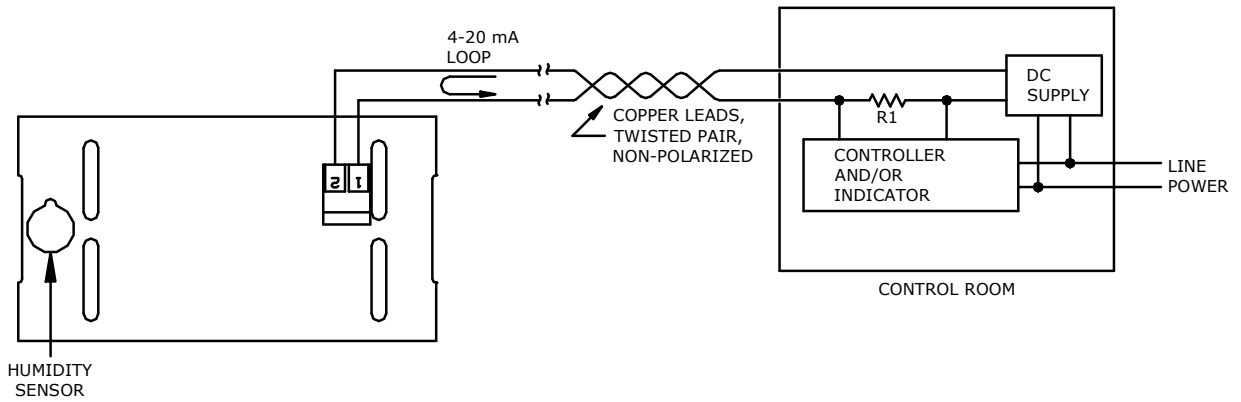

Figure 1
3. Connect power wires to the transmitter by 2 screw terminals located near the edge of the circuit board (figures 1 and 3). Power supply must not exceed 35 VDC.